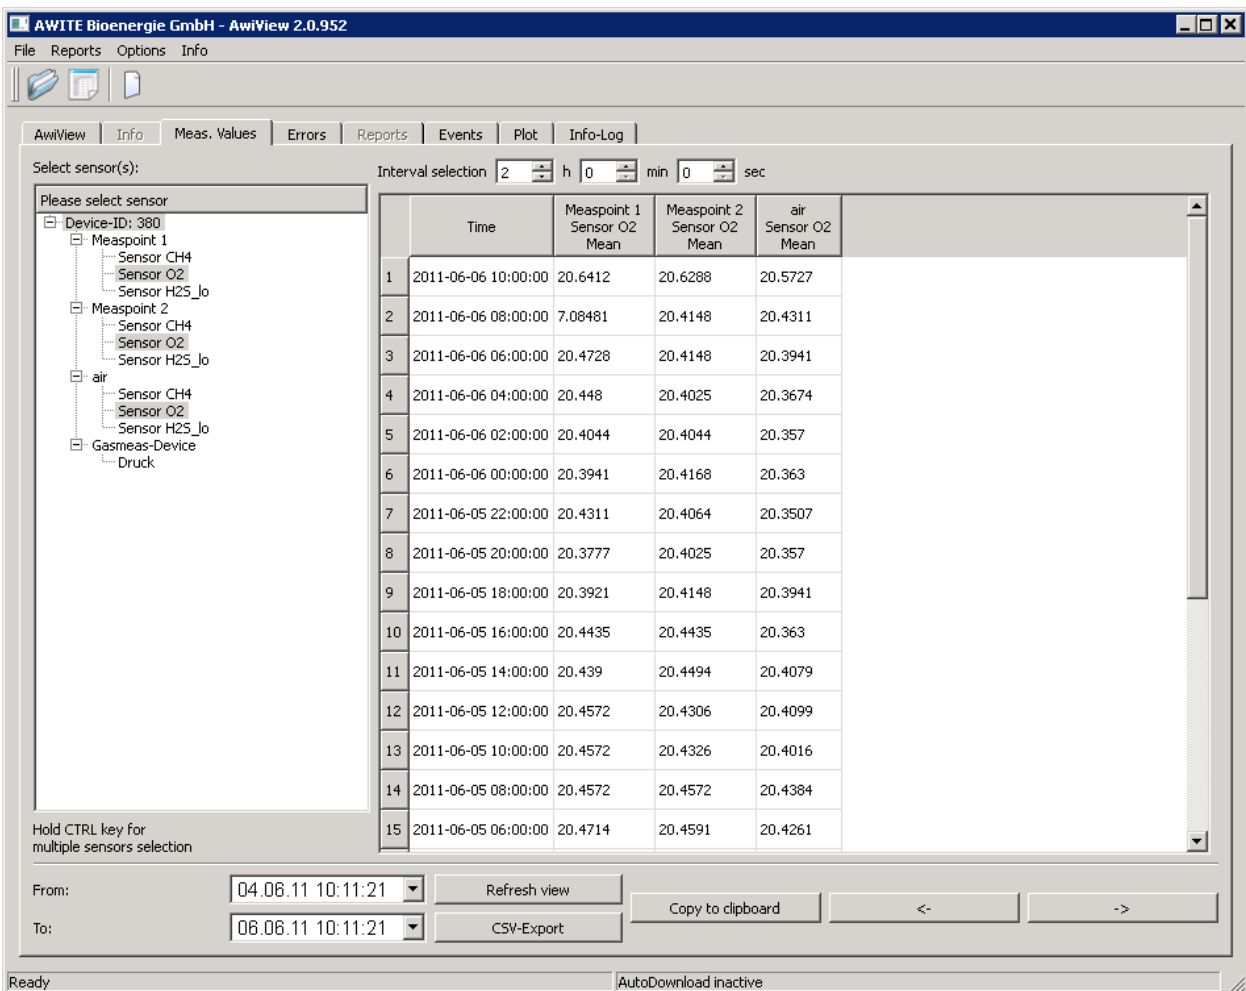

Fig. 10: Main view → Meas. Values tab
In this view the measured values of the integrated sensors are shown (Fig. 10). The display of the data depends on the specified settings (see chapter 4.2). The *Time* column contains the date/time of measurement (i.e. the starting time of the measuring interval). By clicking a column heading the table can be re-sorted based on that column.
- type and amount of data that is loaded into the computer's memory at startup of AwiView (Fig. 10).
The first 4 rows offer settings for updating local data or performing a data backup (Fig. 10). These settings can only be modified if the user level is set to *Expert*.